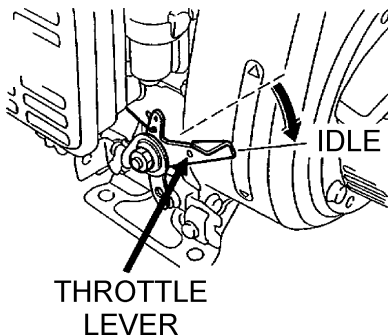

Figure 21. Throttle Lever (Idle Position)
2. Place the trowel's ***throttle lever*** (Figure 21) to the "**IDLE**" position.